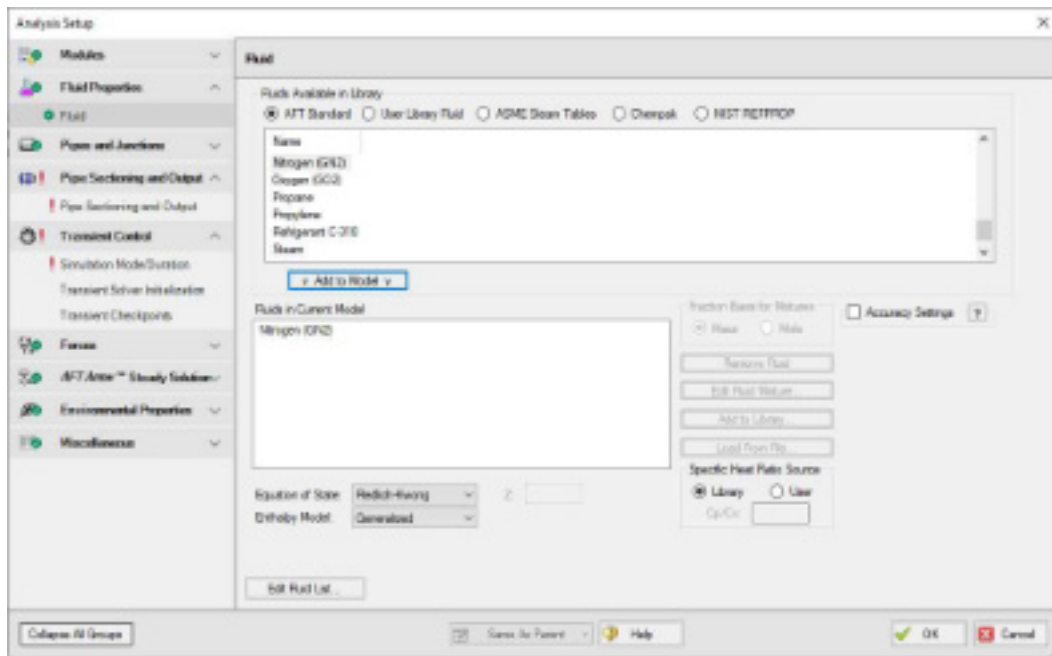

Figure 2.15 Fluid panel of Analysis Setup
- **Select the Fluid item** to open the Fluid panel (Figure 2.15).